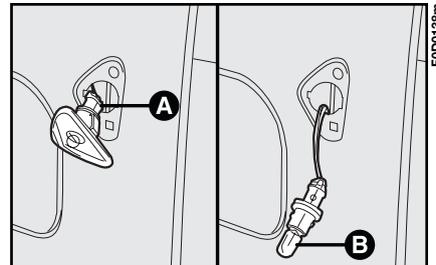

fig. 19
- 2) remove the bulb holder **A**-fig. 19 turning it slightly and replace the bulb **B**.